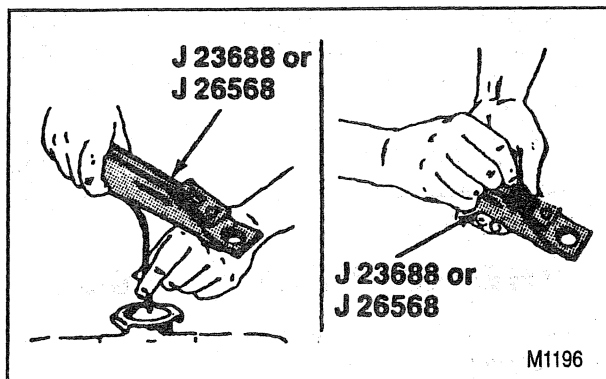

Figure 3—Collecting the Coolant
2. Insert the tip of the pump into the radiator filler neck (figure 3).